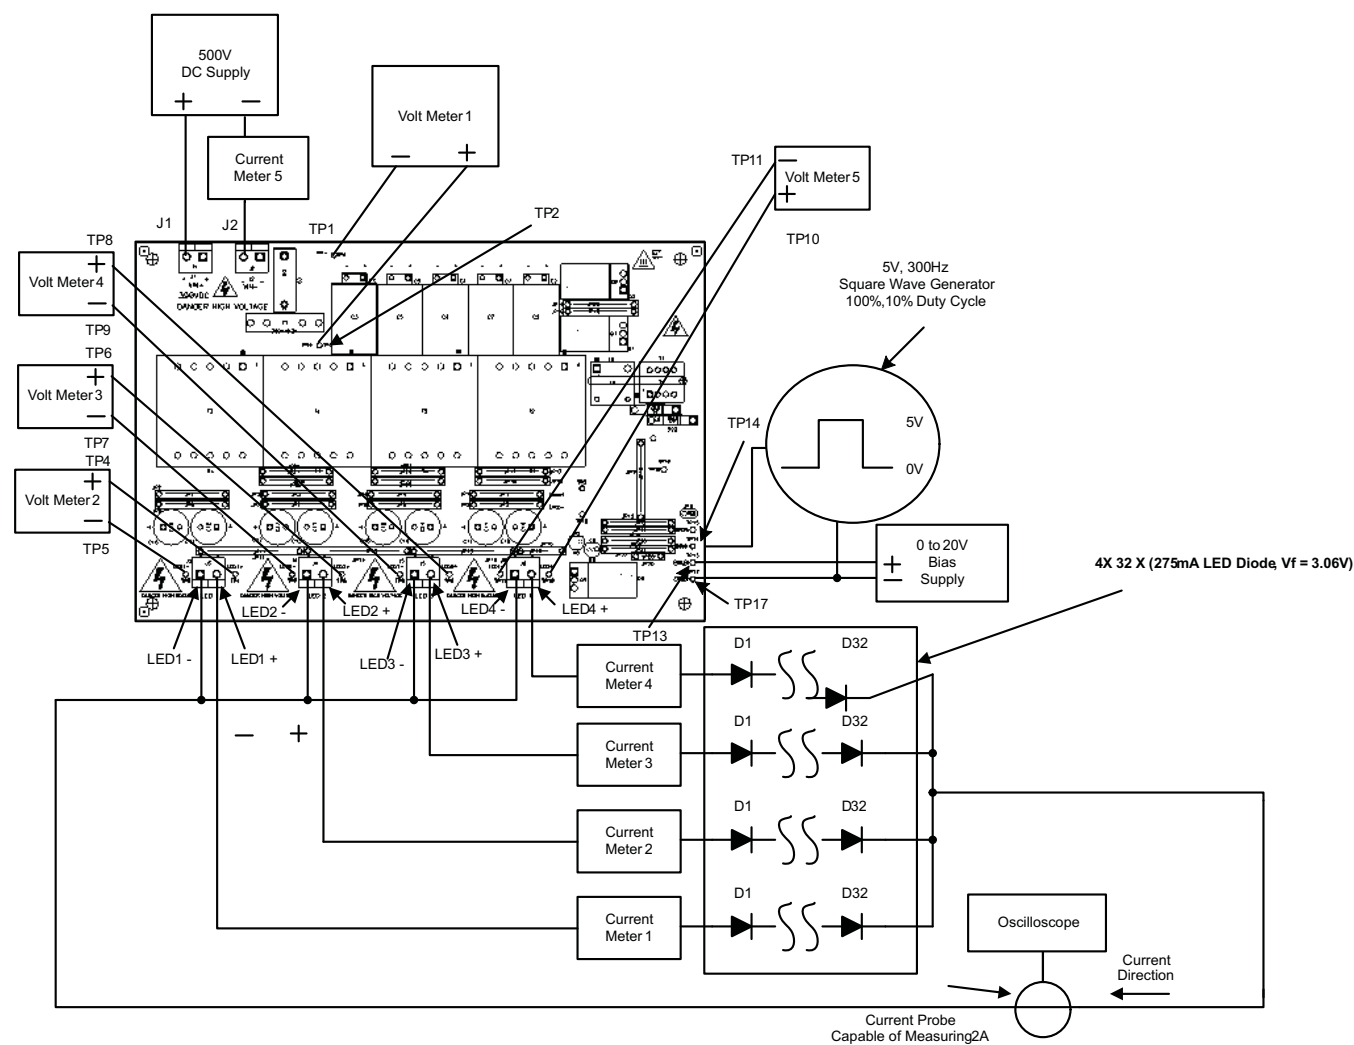

Figure 3. Setup 1 Evaluate Current Sharing With 4 x 32 x 275-mA LED Strings
This EVM was design to power LED diode loads only, for proper operation it is recommend that LED diodes be used. Please refer to Figure 3 and Figure 4 for example test setups.
3. Connect all bias supplies, loads and test equipment before applying power. Please look at Figure 3 and Figure 4 for examples of test setups that could be used.